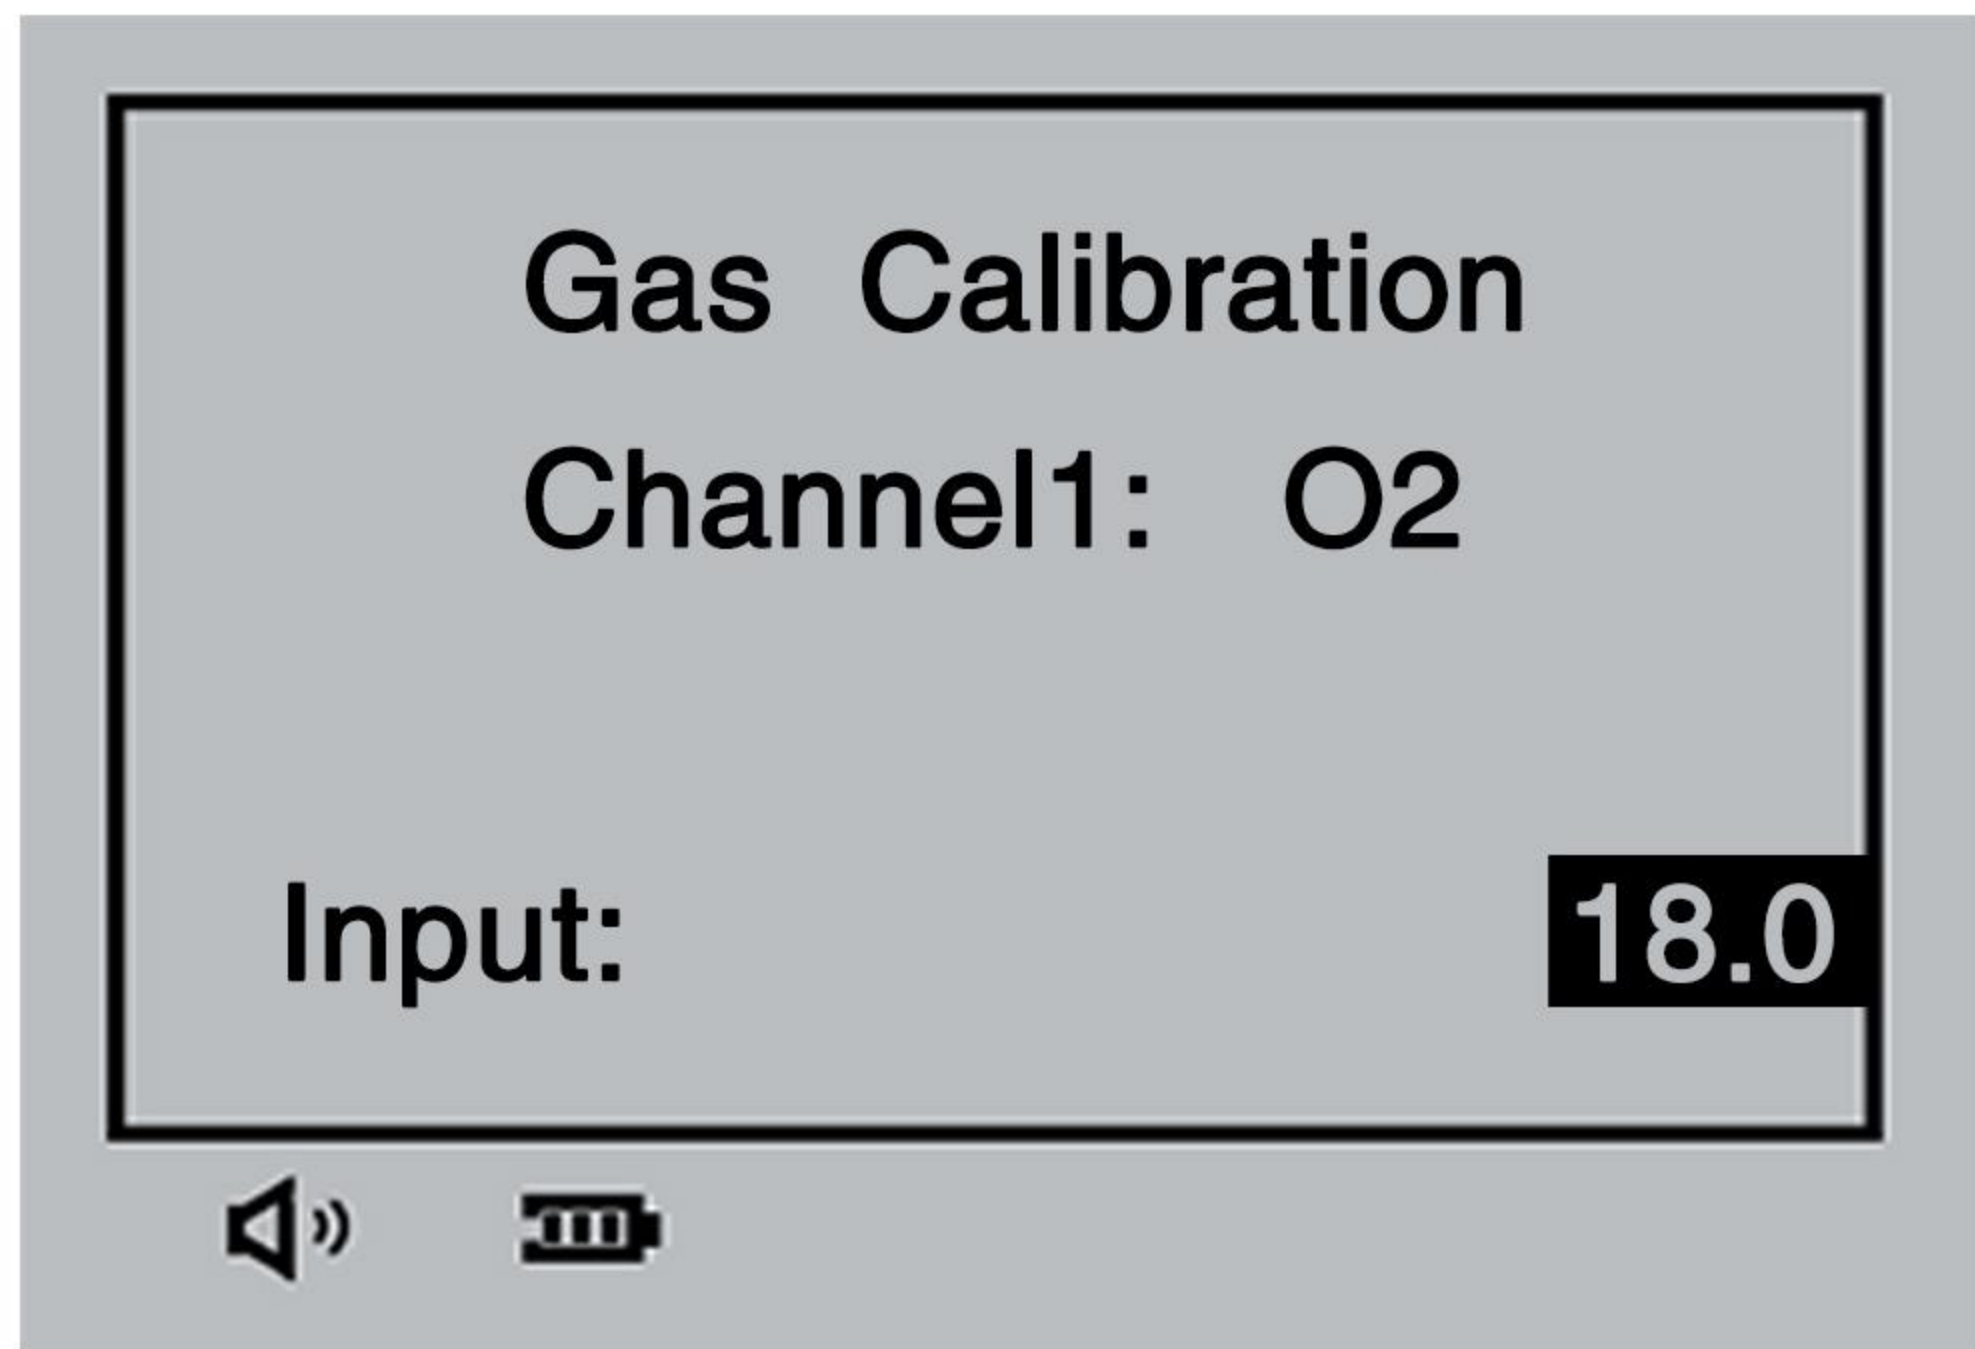

Figure 19
● Use the "▲" or "▼" keys to select the channel to be calibrated (the oxygen channel is used as an example below), then press "①" to enter the interface shown in Figure 19.